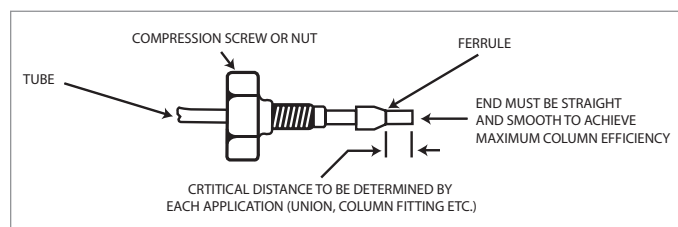

Figure 1. Ferrule and Compression Screw Assembly
Note: The critical distance between the end of the ferrule and the end of the tubing may differ for different column types. If this is the case, make up a new full (Figure 1) using tubing with an internal diameter of 0.009-inch. Tubing of this diameter should be used for all lines between the injector and detector for the best analytical chromatography.
3. Slide the compression screw fitting, followed by the ferrule (large end of the taper first) over the tube (Figure 1).